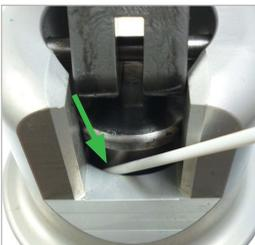

Figure 11
- ▶ Give a short spray with the target tube between the housing and the piston at the clamping lever actuation (*Figure 11*).